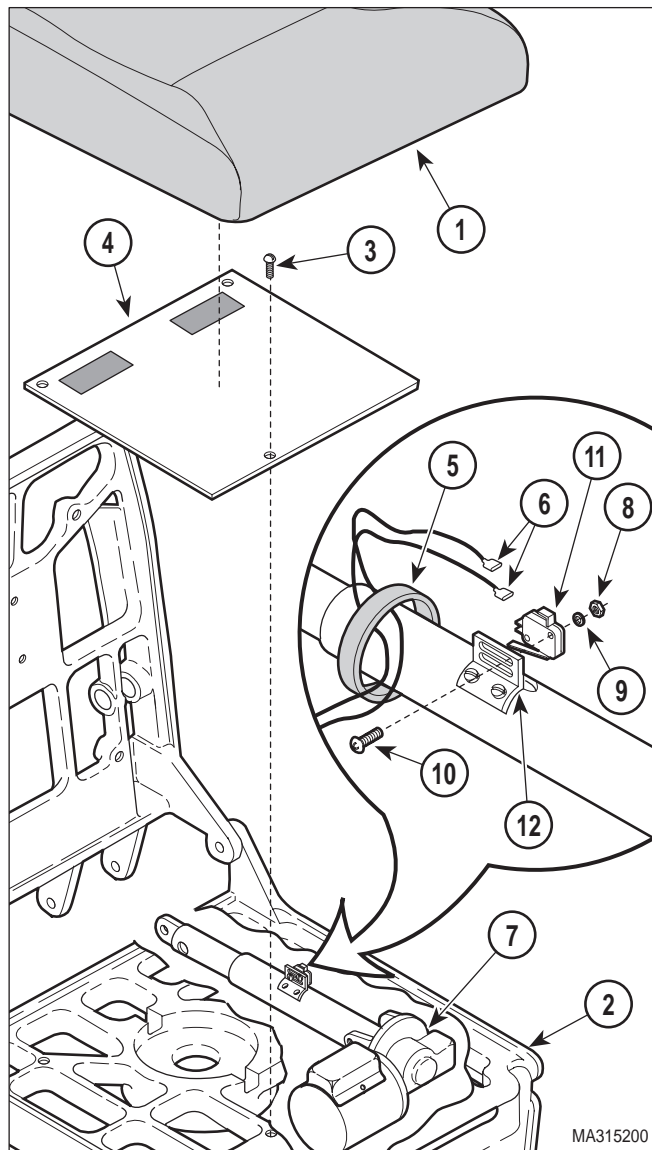

Figure 4-23. Back Up Limit Switch Removal / Installation / Adjustment
- (1) Unplug chair power cord from wall outlet.
- (2) Remove upholstered seat section (1, Figure 4-23) from seat casting (2).
- (3) Remove three screws (3) and seat cover (4) from seat casting (2).
- (4) Cut cable tie (5) securing two wires (6) from shaft of back actuator (7).
- (5) Remove two nuts (8), lockwashers (9), screws (10), and back up limit switch (11) from switch bracket (12).
- (6) Tag and disconnect two wires (6) from back up limit switch (11).